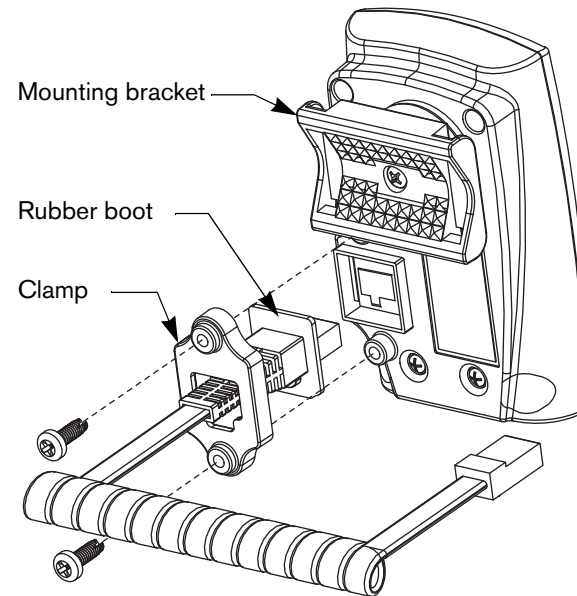

Figure 2: Back of receiver showing rubber boot being properly installed
4. Connect the power cable into the RJ45 connector on the back of the receiver. Push the rubber boot firmly into the recess around the connector to ensure a tight seal. See Figure 2.